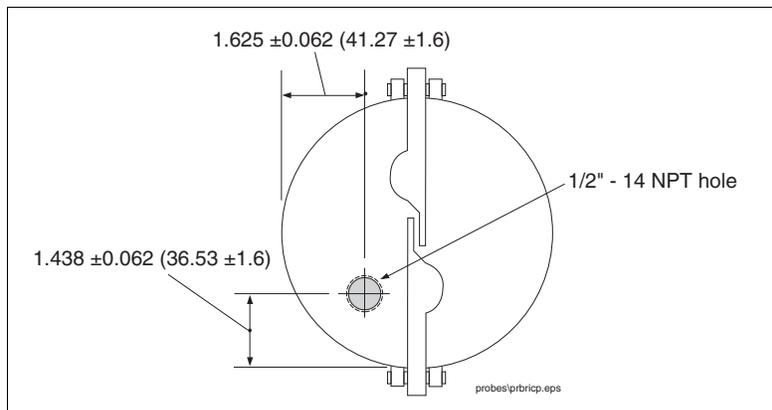

Figure 5. Modifying an Existing Metal Riser Cap
2. Drill and tap the cap for a 1/2"-14 NPT cord grip thread [Figure 5].